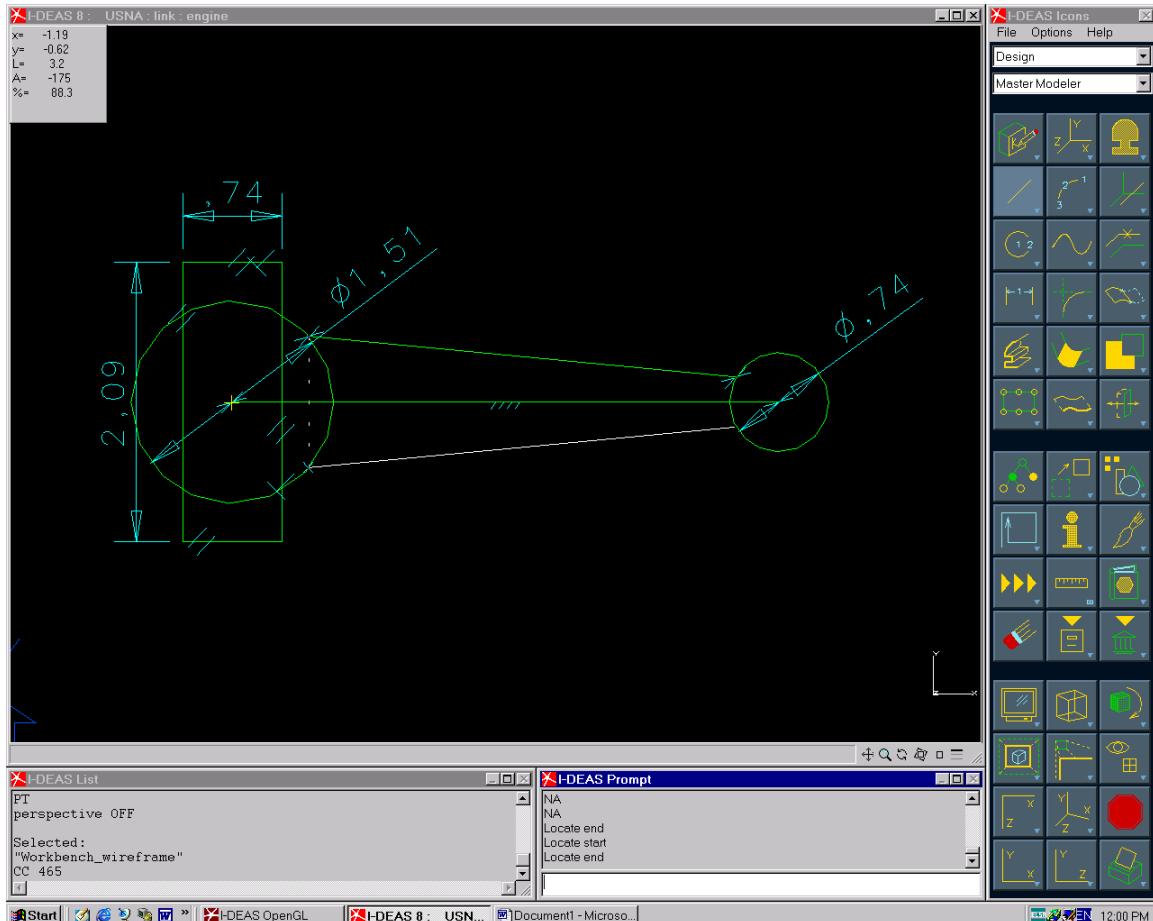

Figure 3
8. Sketch an inclined line from one circle to the next as shown in Fig. 3. Before selecting the starting point, use the right mouse button (hereafter called RMB) to display the Options and select Navigator... and turn off the tangency constraint and recognition, Fig. 4.